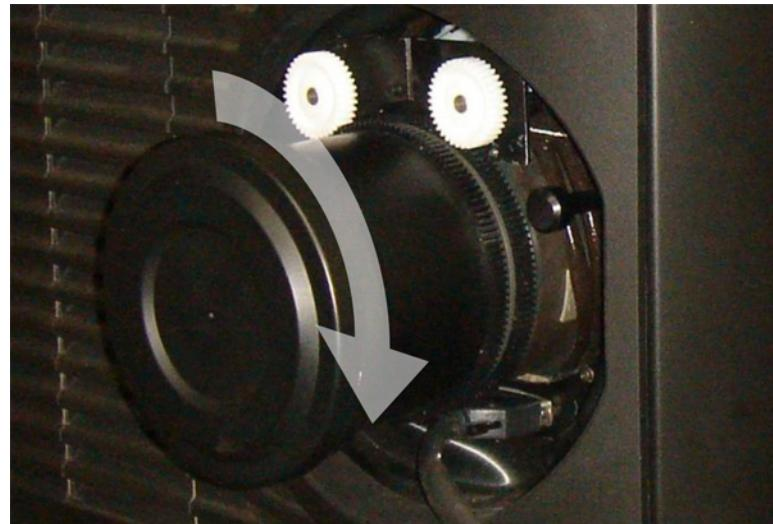

Figure 3-34 Lock Lens by turning clockwise
3. To ensure the lens is secured in the lens mount, turn it clockwise until you feel the tabs on the lens butting against the end stops on the lens mount retaining ring (**Figure 3-34**). To ensure the locking pin is properly engaged, turn the lens counter-clockwise. If the lens rotates, the locking pin is not properly engaged. Turn the lens clockwise and pull the lens plunger assembly out until the plunger assembly stops.